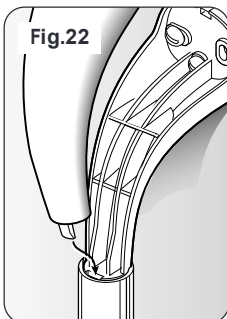
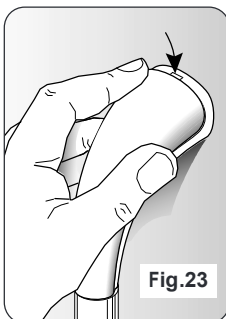

Fig.22
Fig.23
**E** Place a trim cover onto each bracket ensuring the large protrusion at the narrow end of the trim cover, engages into the slot between the rail and bracket (fig.22) before pushing and clicking the other end into place (fig.23). Should the need arise, the trim covers can be removed by inserting a screwdriver into the slot and carefully levering off the trim.